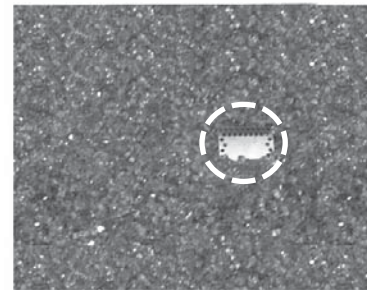

Fig. 16-2
1. Pour the glass out of the bag(s), evenly covering the lava chunks (see above) but not the screen (Fig. 16-2).